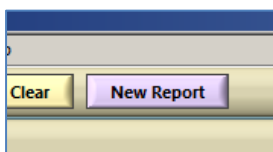

Figure 4.2: The **New Report** Button
1. Click the **New Reports** button on the **DQCsys Client** window to start the **New Report Wizard**; see Figure 4.2.